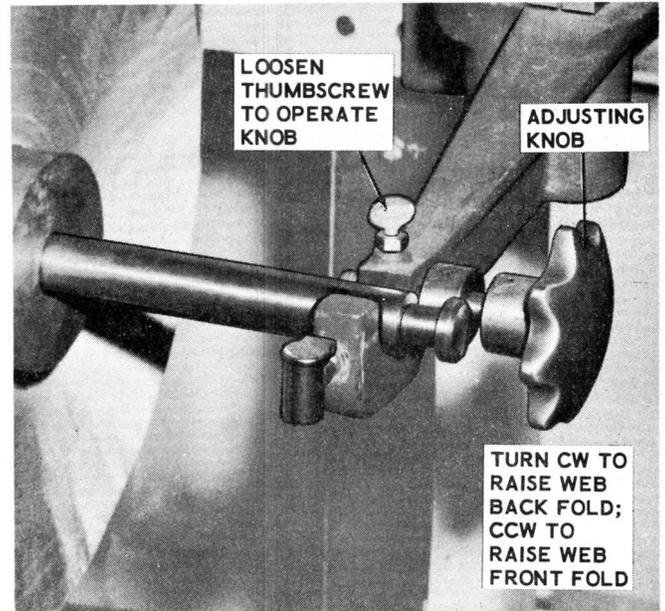

Figure 4-5. Web Centering Control
b. Periodically check for proper centering of the web as it leaves the plow nose. This is adjusted by turning the adjusting knob (Figure 4-5) clockwise to raise the back fold of the web or counterclockwise to lower the back fold. After adjustment is made, tighten thumb-screw.